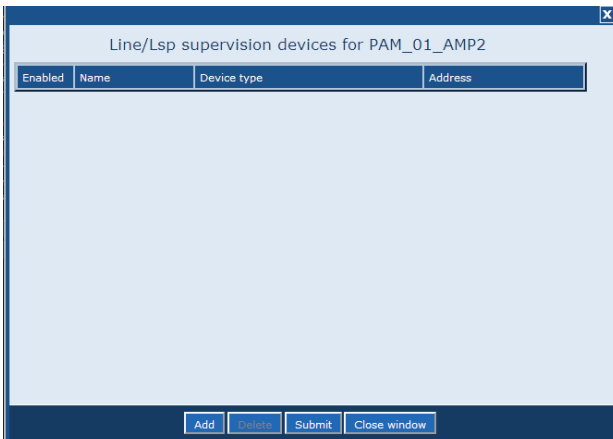

figure 43.14: Add supervision device, step 1
- 1 Click the *Configure supervision devices* button in the *Audio Outputs* category of the applicable power amplifier (see section 43.3.4). A screen similar to the one figure 43.14 appears.